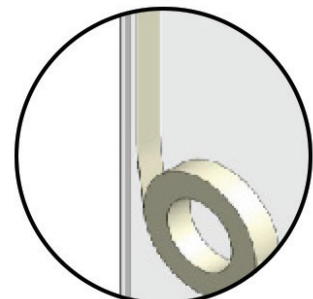

FIG 22.
- Hold glass to glass join in place with insulation/gaffa tape (**FIG 22**).